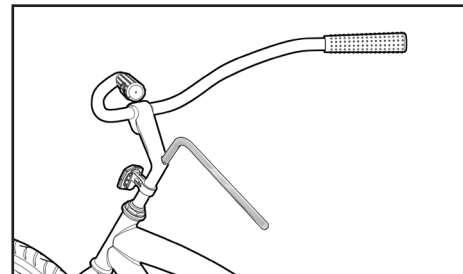

Figure 20
**⚠ WARNING:** If the handlebar clamp is not tight enough, the handlebar can slip in the stem. This can cause damage to the handlebar or stem, and can cause loss of control and serious injury or even death (see Figure 20).